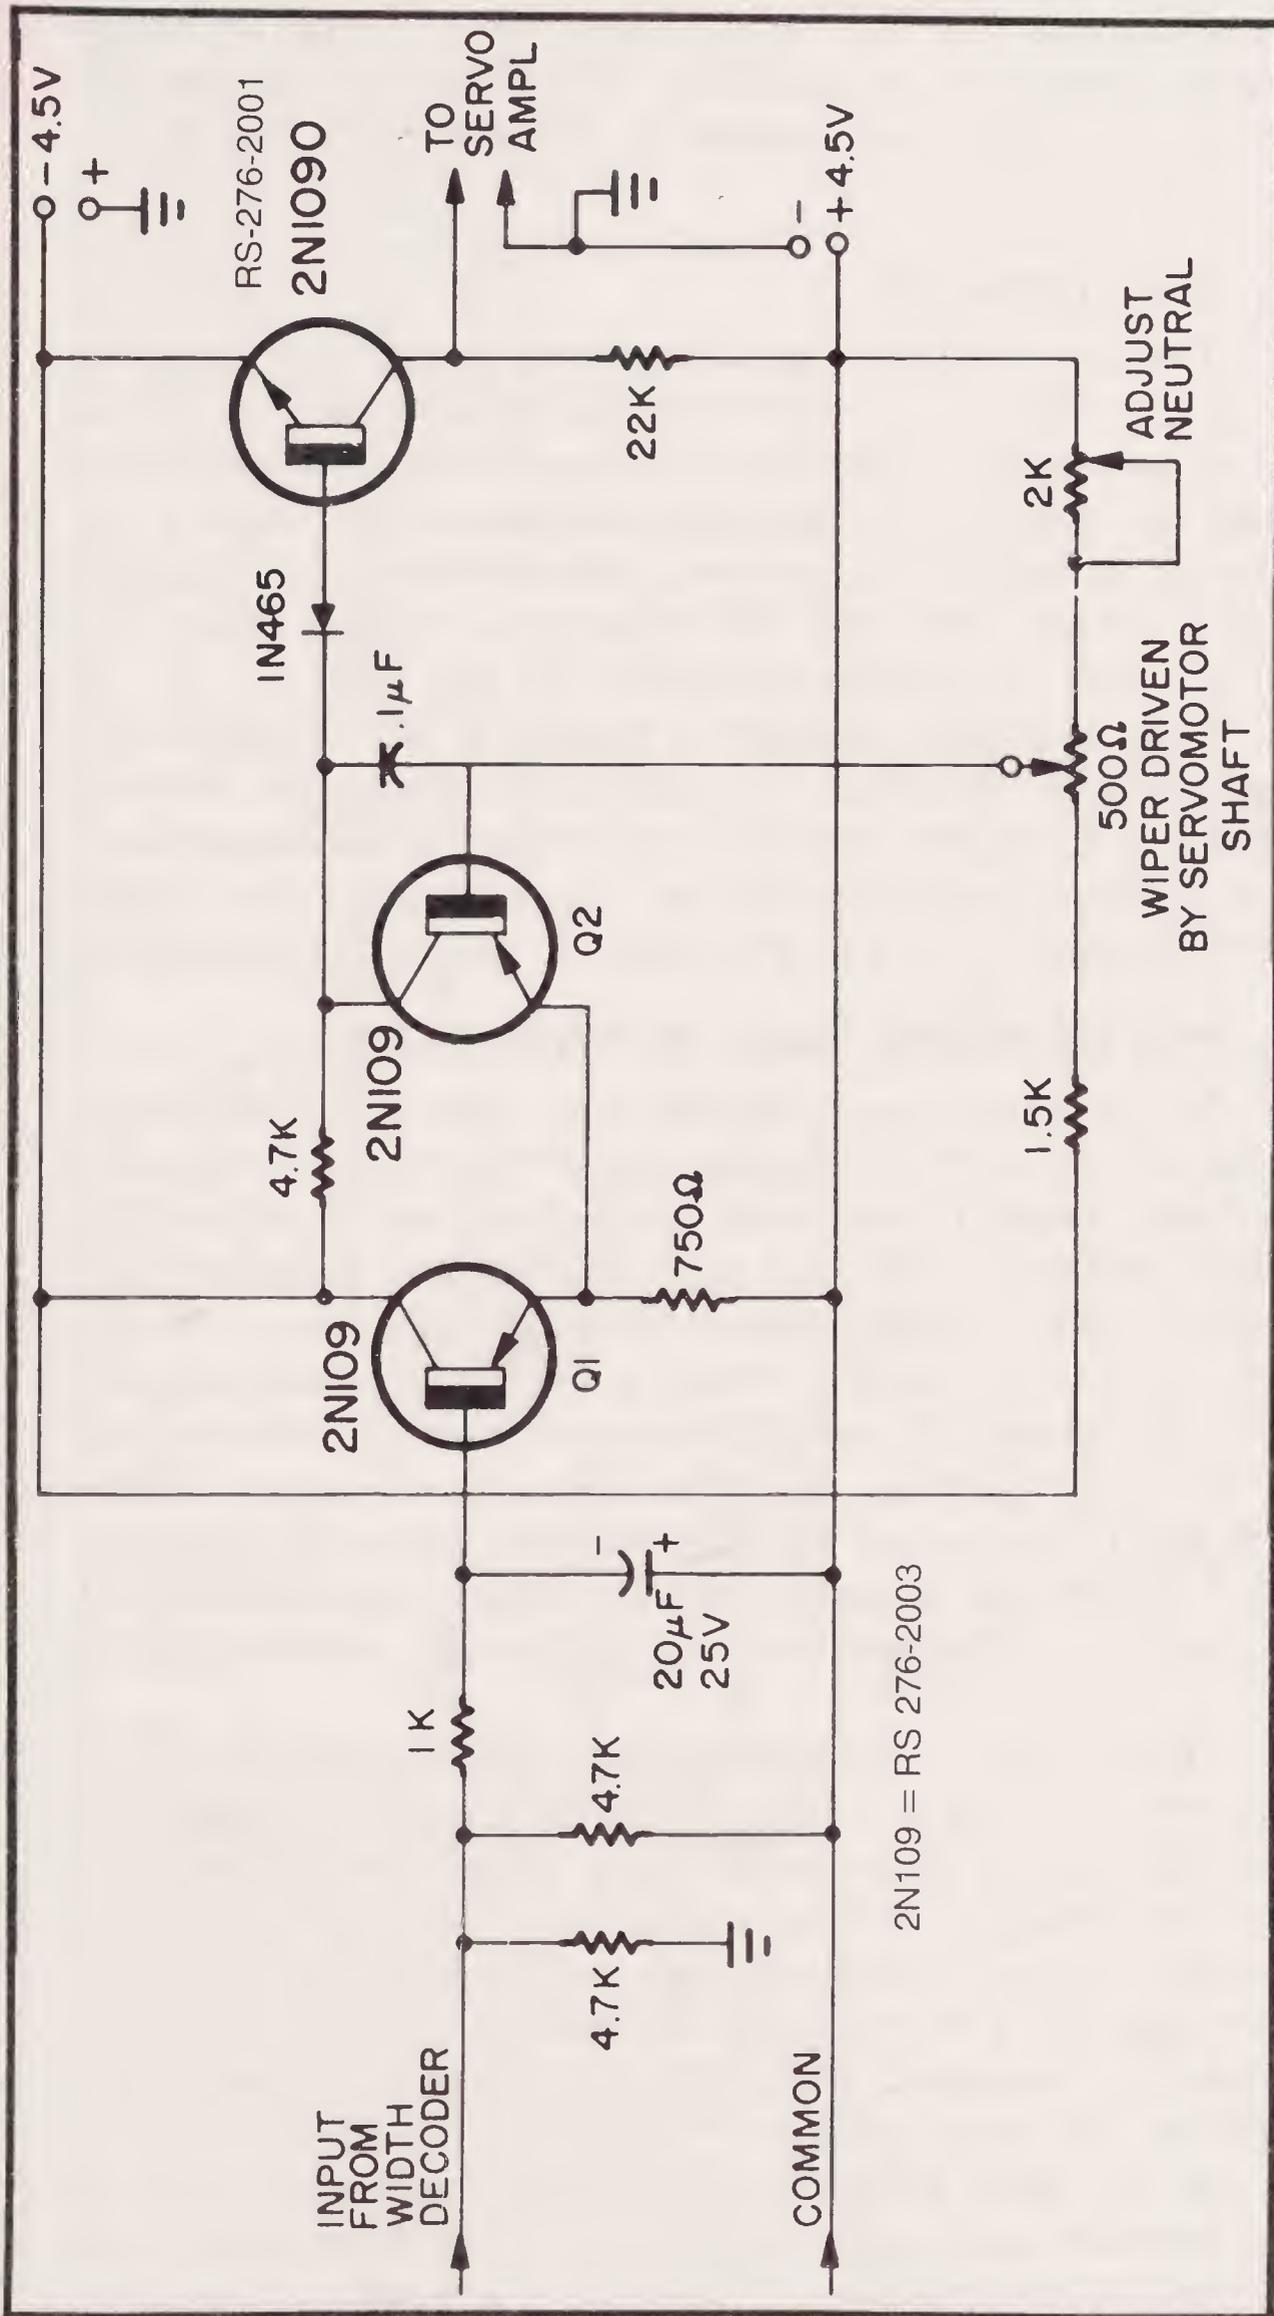

Fig. 1-26. Differential servo amplifier. Note that Q2's input is the voltage from the feedback pot (R).
This voltage by itself cannot operate the *servomotor*, so we use a differential amplifier (Fig. 1-26). This amplifier does two things: First it amplifies the DC voltage from the detector and gives a large DC voltage output capable of running the motor, and second, it receives a *feedback* from the rudder servoarm potentiometer (R). This voltage balances the input voltage when the arm has moved the desired amount, stopping the arm in the commanded position. Note that when the command signal stops, this feedback voltage then becomes the only input to the differential amplifier and thus causes the servoarm to return to neutral.